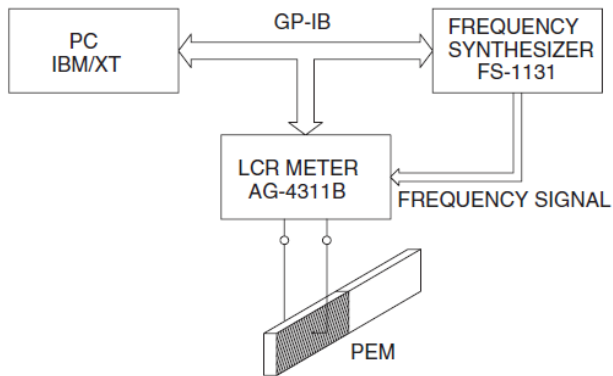

Fig. 1. Block diagram of the apparatus for admittance parameter measurements of the PEM.
FIGURE 1 Improved method of installing the PEM on the stage of the PEM housing. The orientation of a PEM head is different from that in Figure 5 of reference 5. In this method it is tilted 45° from a horizontal position, although the method of supporting the PEM head and its housing are the same. Materials of the components of PEM head and its housing are the following: (1) synthetic crystalline quartz; (2) silica glass; (3 and 4) phenol resin plates; (5) aluminum block; (6) epoxy resin block; (7) silica glass bar; (8) silicone rubber sheet.